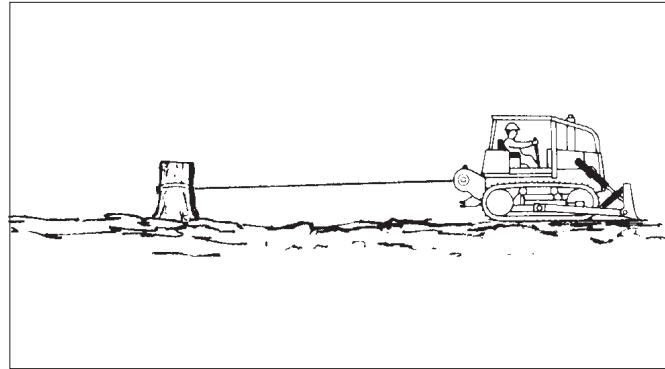

Figure 22 Moving a Disabled Vehicle (Step A)
A. A tractor or skidder often travels in areas where traction conditions are bad. A vehicle equipped with a winch can be used to remove itself from mud or other areas where it cannot move using only the drive wheels or tracks. See Figure 22. Use the following procedure: